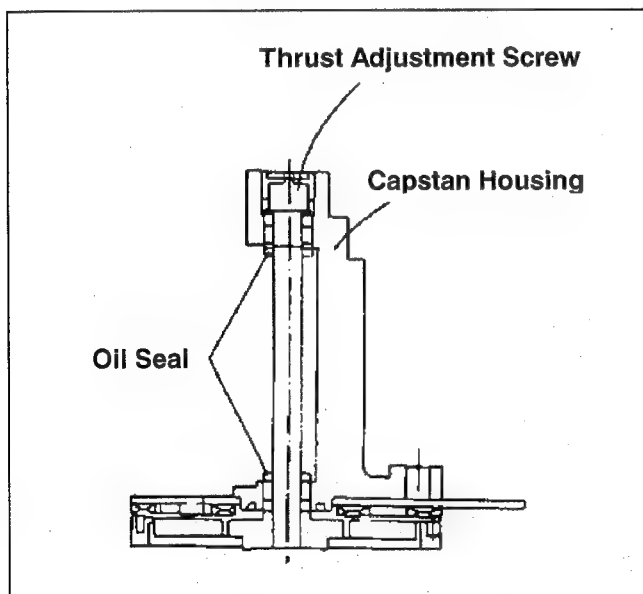

Fig. 10-18-1 Location of Oil Seal and Thrust Screw.
5. Turn the Thrust Adjustment Screw another an angle of 270 degree from 180 degree (about 225 degree) clockwise as shown in figure 10-18-1.